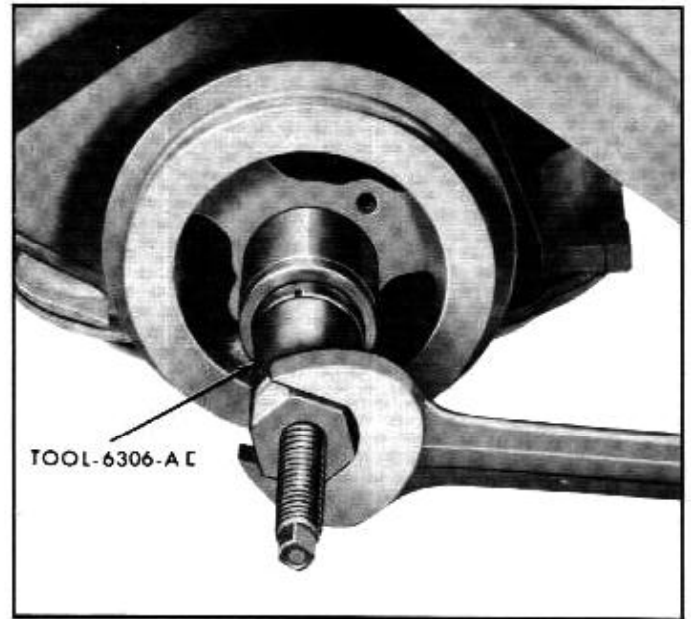

Fig. 6A-122—Installing Crankshaft Damper—Typical
32. Torque 130 to 145 lbs. ft. See figure 6A-122.